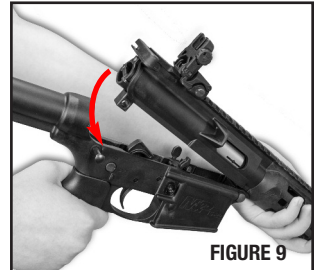

FIGURE 9
- Pivot lower receiver down and away from upper receiver (FIGURE 9).